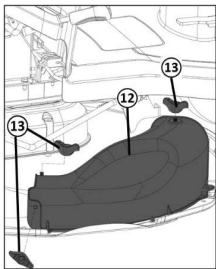
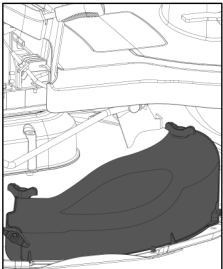

Figure 14
Figure 15
2. Install the mulching plug to the designated position of the ride on mower according to the method shown in Figure 14, and the installation status is shown in Figure 15.